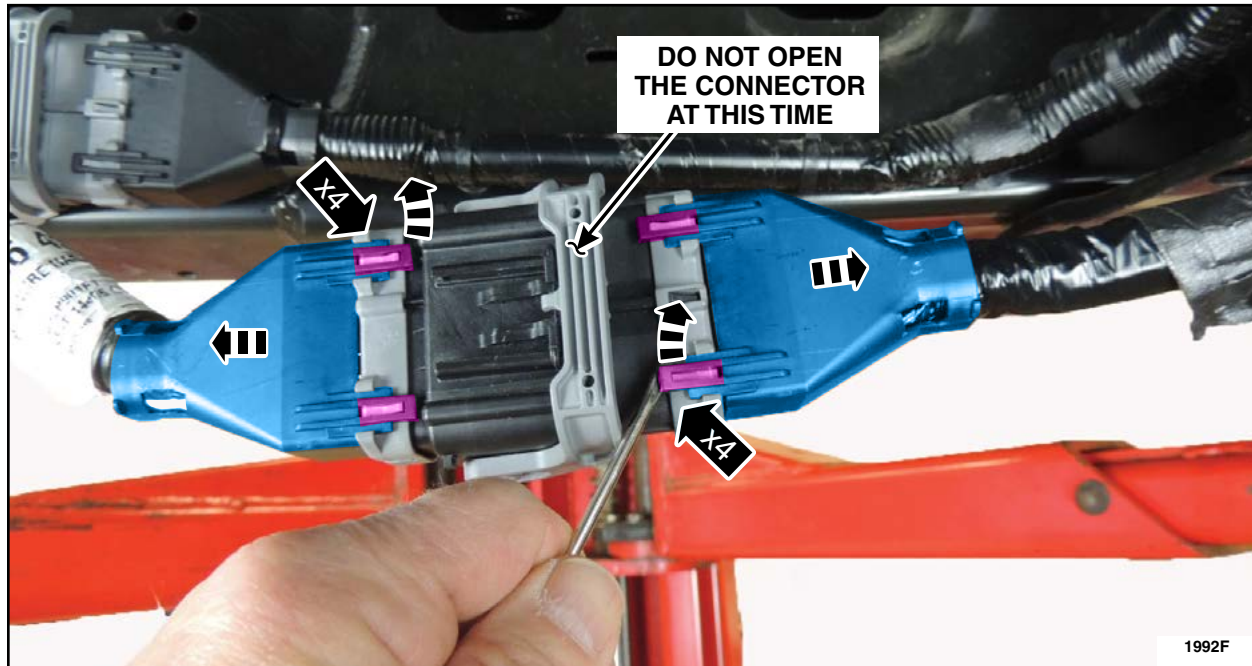

FIGURE 6
6. On both sides, remove the connector C422 harness covers by releasing the four connector cover tangs (two on the front side and two on the back side of each cover) and sliding the harness cover off of the main connector hard shell. See Figure 6.